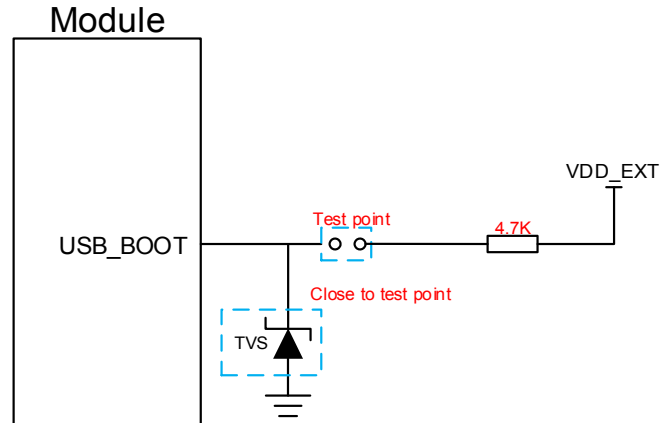

Figure 31: Reference Circuit of USB\_BOOT Interface
2. When using MCU to control module to enter the emergency download mode, please follow the above timing sequence. It is not recommended to pull up USB\_BOOT to 1.8V before powering up VBAT. Short the test points as shown in **Figure 31** can manually force the module to enter download mode.